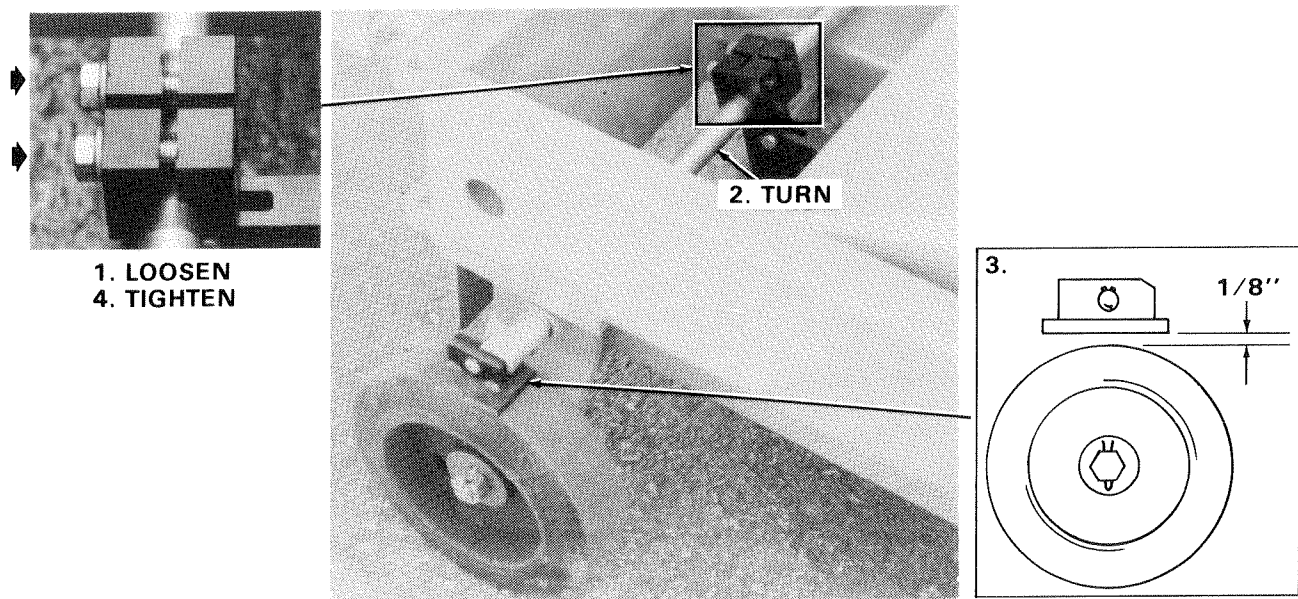

Figure 24. Adjusting Brakes.
- a. Loosen cap screw holding brake shaft and rotate brake shaft to obtain 1/8" dimension. Tighten capscrew, Figure 24.